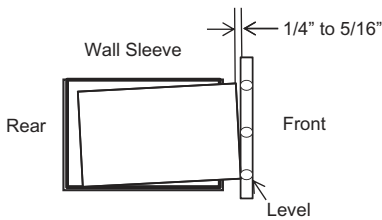

Fig.1
- When installation is complete, replacement unit must have rearward slope as shown in Fig 1.
1. Attach the 2 seals (1" x 3/8" x 14") as shown in Fig. 1.
In cases where the existing sleeve is a non-Frigidaire sleeve but is installed with a dual intake grille. The existing grille may be left in place. Make sure the outer 3 1/2" to 4 1/2" louvers are angled from the left and right sides of the sleeve toward the center. (See Fig. 1). This provides proper flow of outside air into the unit.